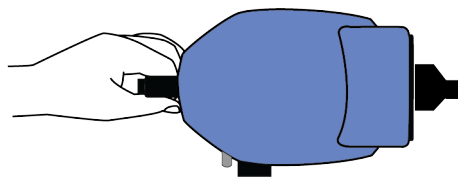

Figure 11-4 Support head.
5. Support the imager head with one hand when unlocking the joint, see Figure 11-4.